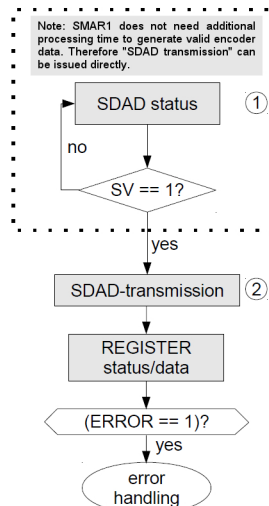

Figure 12 - Example sequence of the commands SDAD Status / SDAD transmission
Figure 12 shows the interaction of the two **SDAD status commands** and **SDAD transmission commands**. It is not necessary to start each sensor data communication with the **SDAD status command** (1). SMAR1 has no processing time and can therefore directly output valid sensor data. For this reason the command sequence can start with **SDAD transmission command** (2). Following this, the **REGISTER status / data command** should be executed to detect an unsuccessful SPI communication.